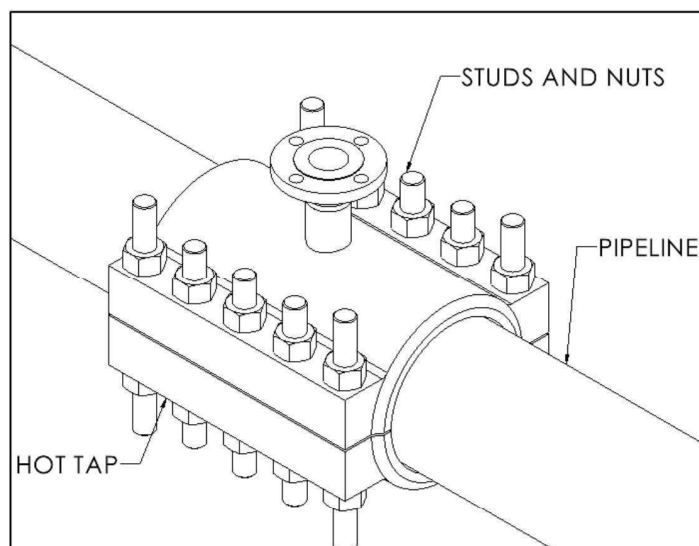
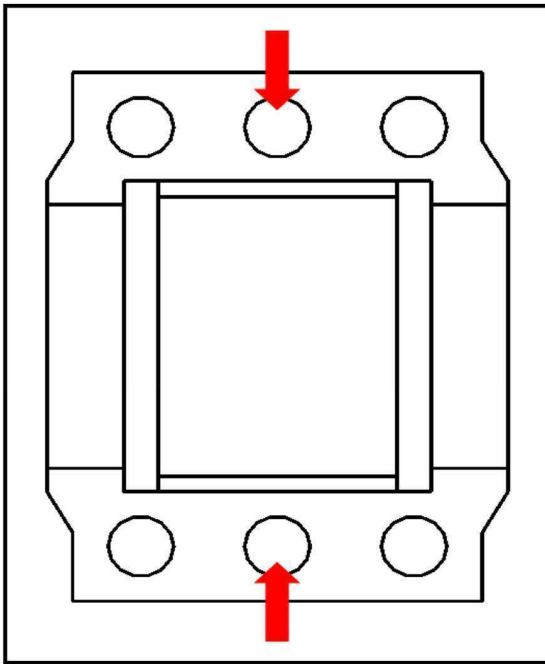

Figure 7
Figure 8
This section details the installation procedure for standard bolt on PLIDCO Hot Tapping+Saddle without clamp ends as shown in Figure 7.
5. Install the studs and nuts through the holes in the Hot Tapping+Saddles as shown in Figure 7. Most Hot Taps will have two different stud lengths. Make sure the longer studs are in the proper bolt holes. PLIDCO Hot Tapping+Saddles with 3 holes per side should have the longer studs in the two center holes. Hot Taps with more than 3 holes per side should have the longer studs in the four corner holes (see Figures 8 and 9). This will help in drawing the fitting together.